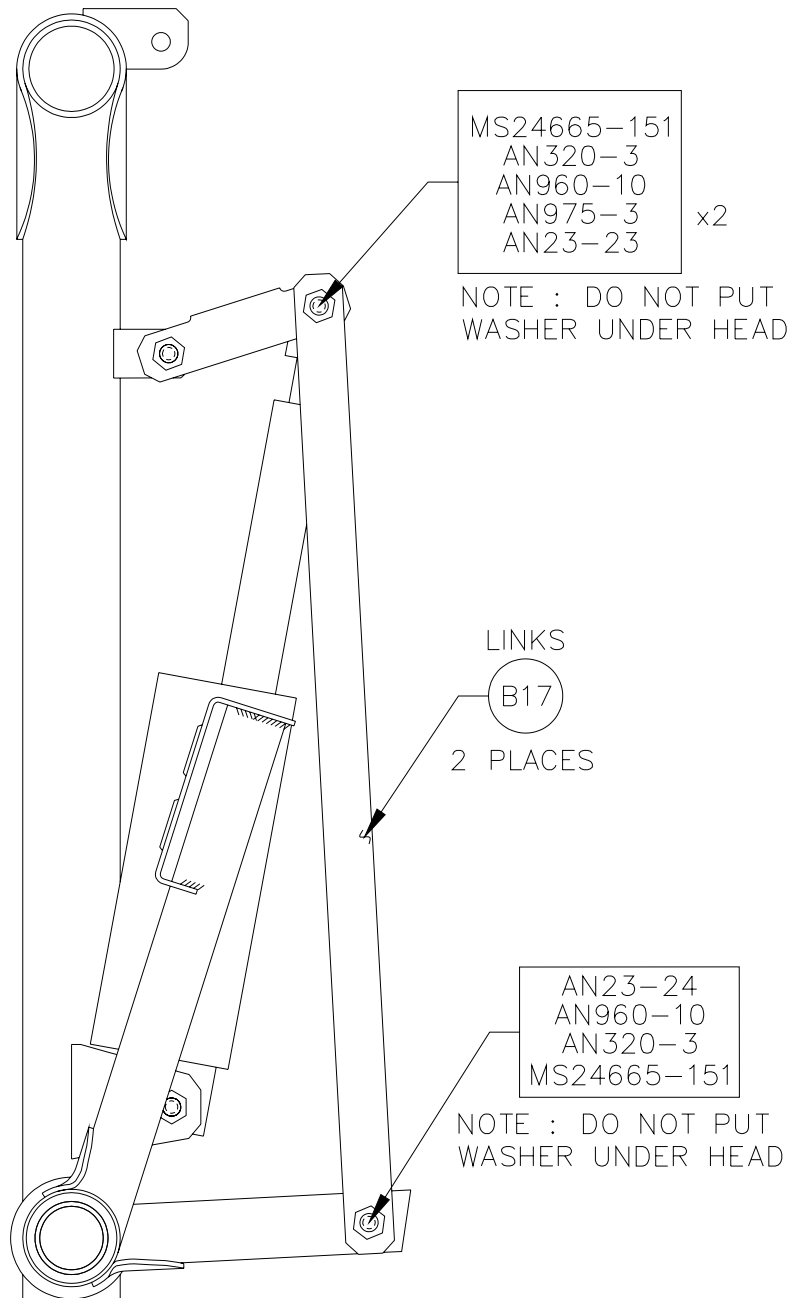

Figure 5
11. Remove the B17 links and install, using existing hardware, new links provide with kit. See Figure 5.